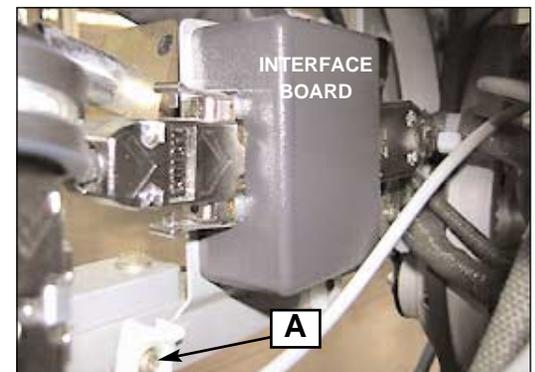

FIG. 317:
- (1) Unplug connectors.
- (2) Loose two lower screws (A) (see fig. 317).
- (3) Remove Interface Board box by sliding it.